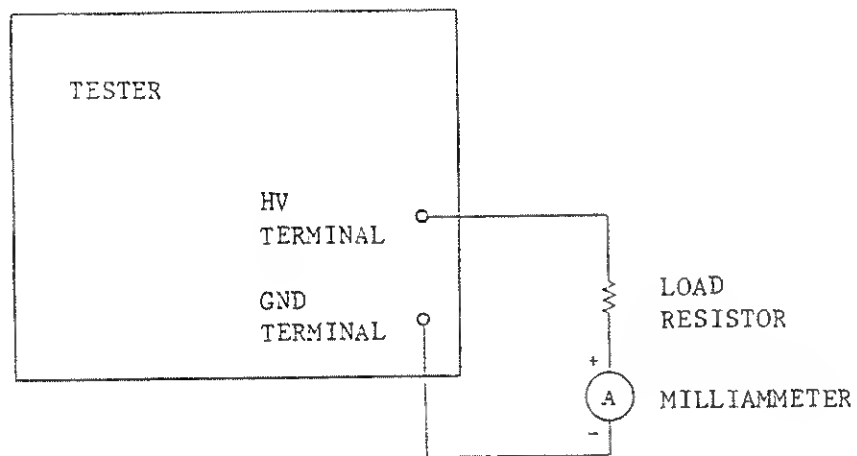

Figure 6.1
(6) Check of Cutoff Current
- ① With the adjustment of Item (5) alone, the cutoff current should satisfy the accuracy of judgement to the specification. If it does not, the Tester is malfunctioning. No further adjustments than that of Item (5) can be made and the Tester needs repair service.
- ② Set the panel switches and knobs in the same manner as mentioned in Item (3), ①.
- ③ Connect a load resistor and a milliammeter which are corresponding to the set cutoff current, as shown in Figure 6.1 or 6.2. Select a resistance from Table 6.1 in conformity with the set current.
- ④ Set the Tester to the TEST ON state and gradually increase its output voltage until the Tester generates the NG signal at approximately 1 kV. Turn slightly the TEST VOLTAGE dial counterclockwise, set the Tester again to the TEST ON state, and increase the output voltage very slowly.
- ⑤ Read the current immediately before the NG signal is generated and the output is cut off.
- ⑥ For each of the cutoff current values to be tested, repeat the procedure of Steps ③ - ⑤.